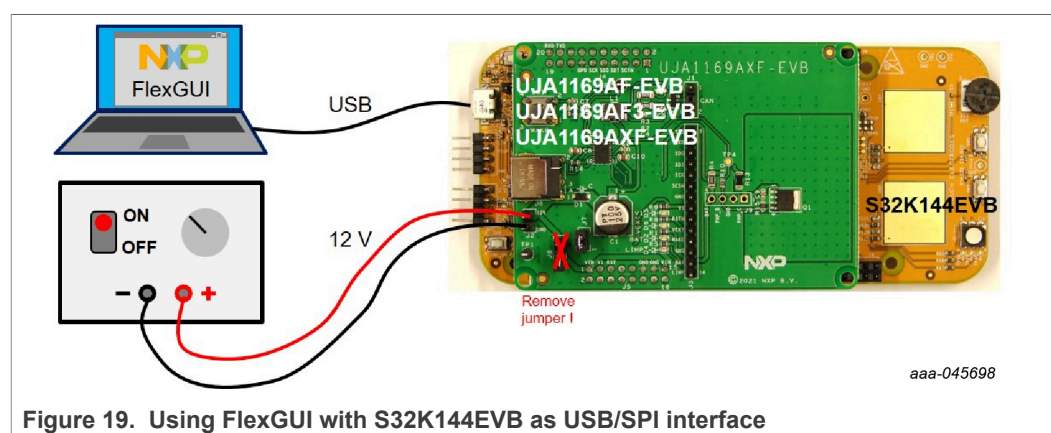

Figure 19. Using FlexGUI with S32K144EVB as USB/SPI interface
- S32K144EVB, Rev. B (Figure 19)
A 12 V power supply must be connected to header J2 or to jack J6 on the UJA1169A-EVB (see also Figure 19). It supplies the BAT pin of the SBC via a polarity protection diode.
To establish a connection between the FlexGUI and the hardware, a battery supply must first be provided for the UJA1169Ax-EVB (see Figure 19) before connecting the microcontroller board to the PC using a USB cable. Note that it may take a few seconds for the PC operating system to detect the connection and locate the appropriate USB driver.